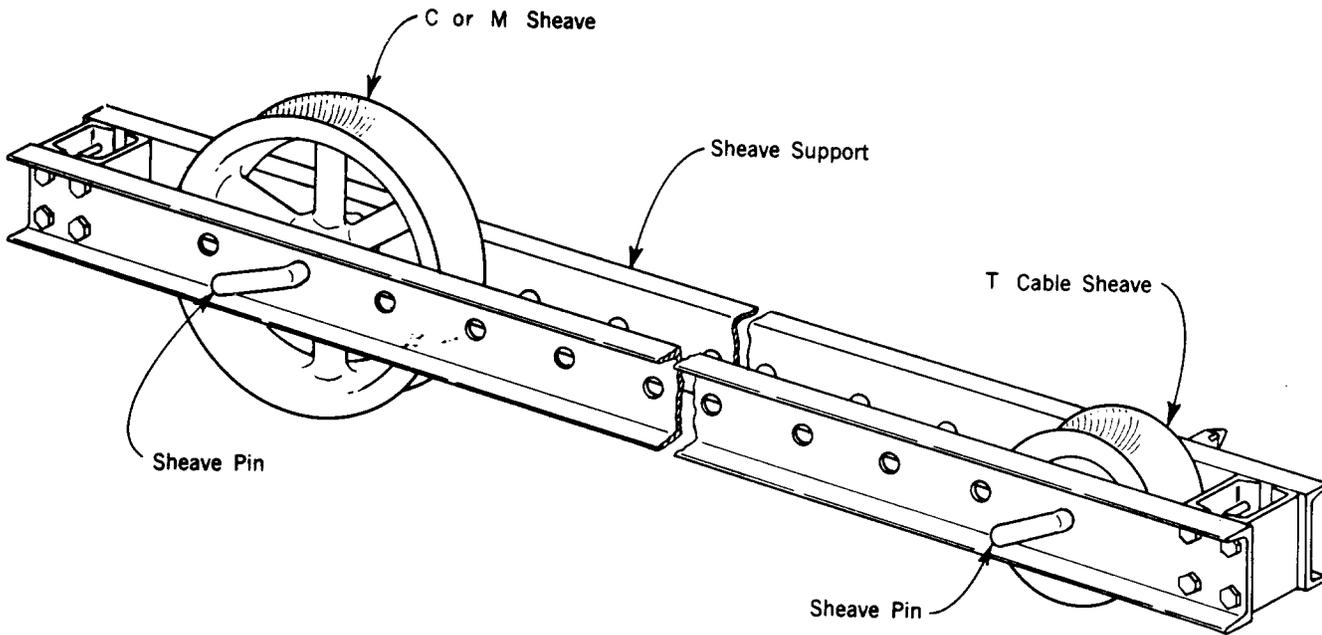

Fig. 1—Pulling Frame
3.01 The D pulling frame consists of one D sheave support, one C or one M cable sheave, one T cable sheave, and two sheave pins (Fig. 1).